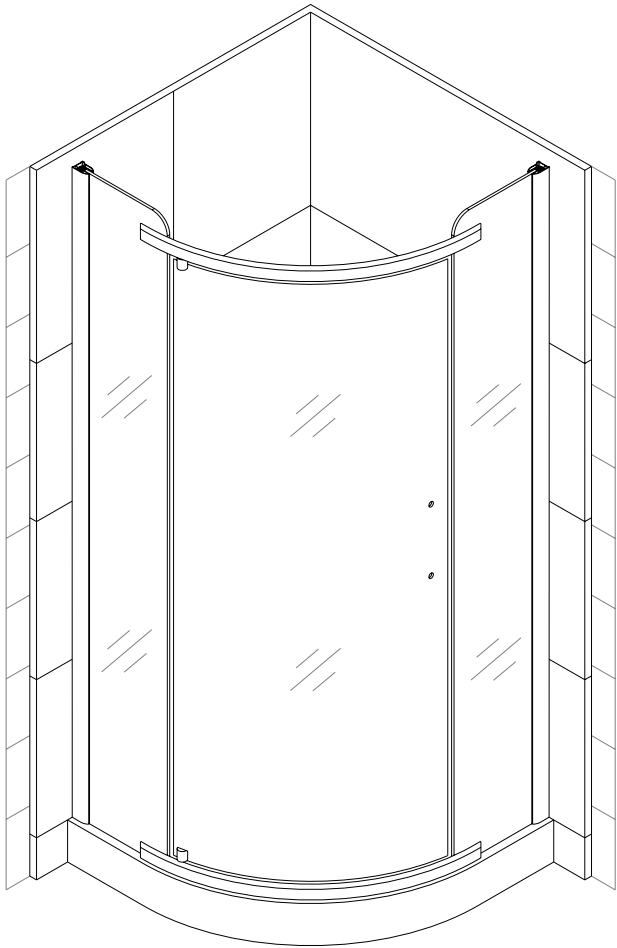

Fig 7
8. Repeat the same steps for the second pivot assembly (Fig 7).